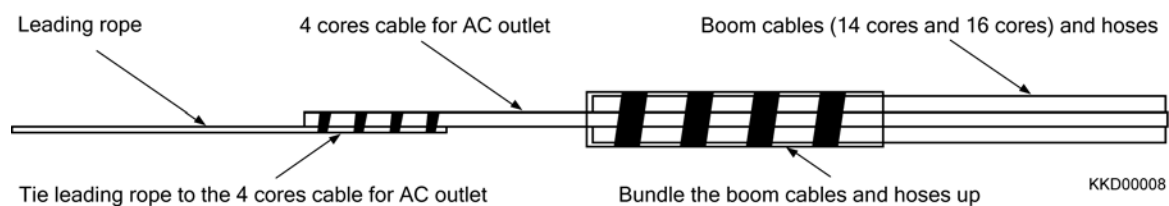

Fig. 2-64
- 9) Bundle the boom cables and hoses up, and then tie the leading rope to the 4 cores cable for AC outlet (Fig. 2-64)